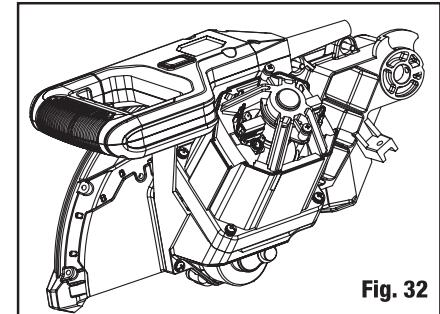

Fig. 32
**REEMPLACEMENT DES BALAIS DE CARBONE (fig. 32)**